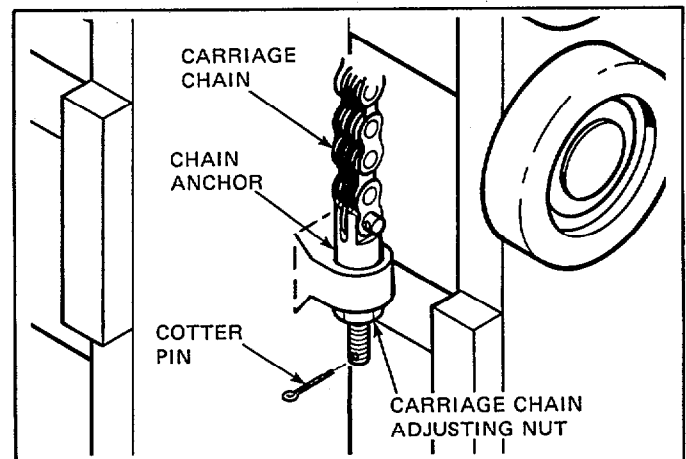

Figure 45. Carriage Chain Anchor
2. Adjust one carriage chain (see Figure 45) to achieve the correct carriage position when fully lowered.